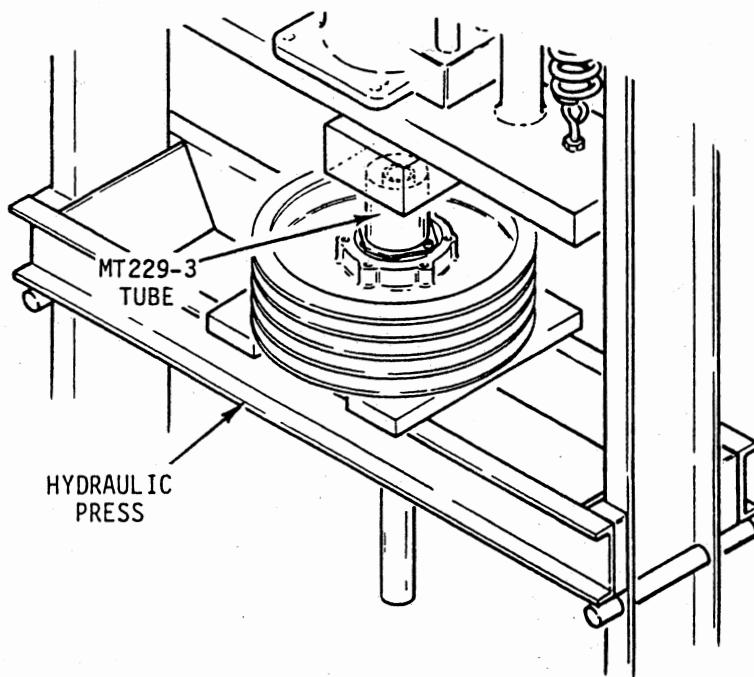

FIGURE 4
- 5) Remove sheave from clutch assembly per Figure 4. Support sheave and press on MT229-3 tube. To prevent damage to clutch bearings, DO NOT press against end of shaft. Take care to ensure shaft does not fall to floor as it is pressed from sheave. Scrap old sheave; it is not necessary to salvage A188-2 sprag identification plate.